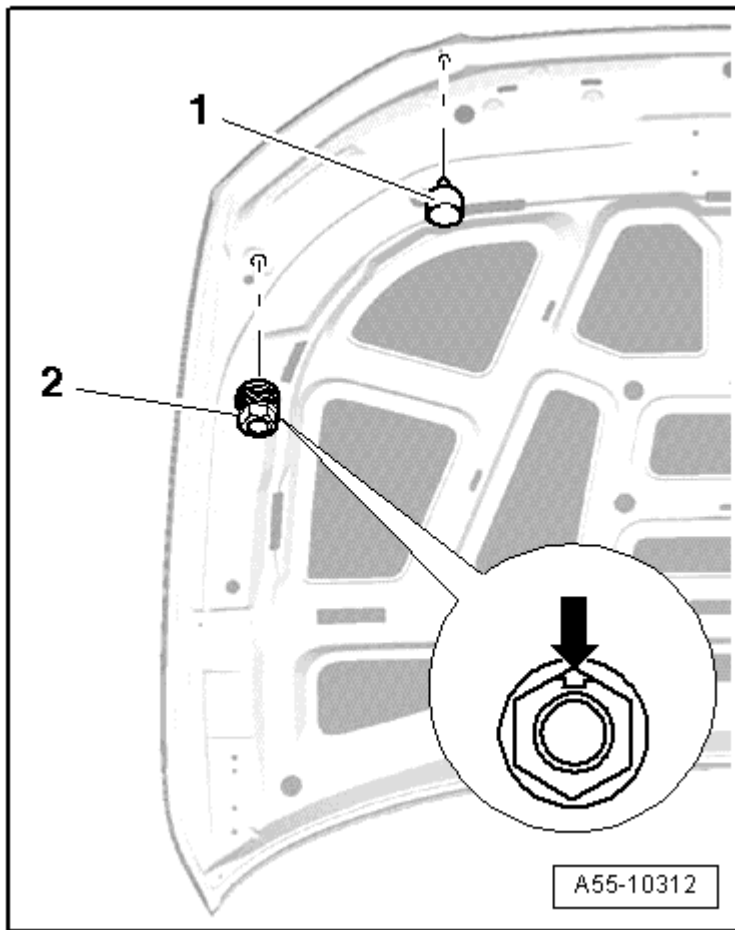

Fig. 6: Identifying Height Adjustment Stop Buffer
-- Aligning the hood with the fenders using the stop buffers. Refer to **Fig. 6**.